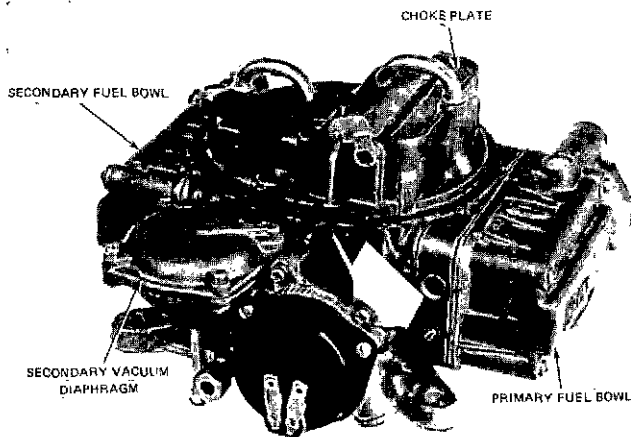

FIG. 24 Choke Housing Side Model 4160, Internally Adjusted Needle and Seat
3. Remove secondary vacuum diaphragm assembly from carburetor body (if used) (Figure 24).